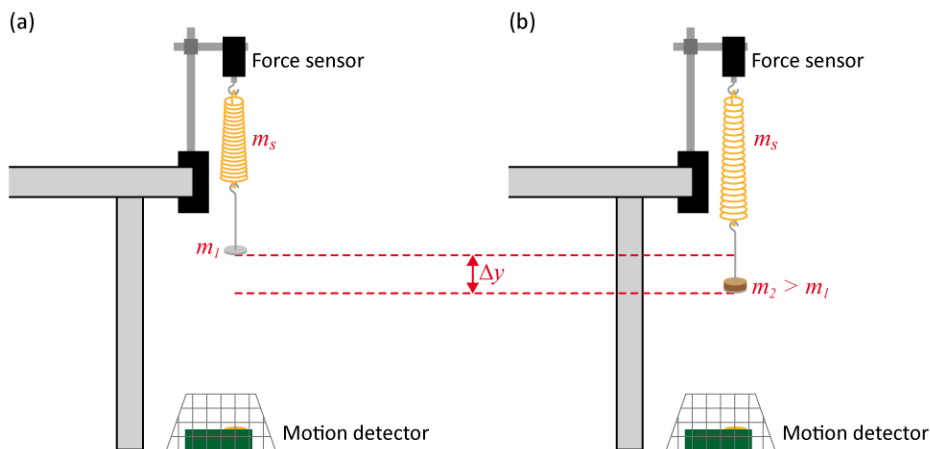

Figure 1 - Simple harmonic motion setup
- Step 2.** Prepare the setup presented in Figure 1. Place the motion detector on the floor beneath the mass hanger. Place the wire basket over the motion detector to protect it. The motion detector's face should be directly under the hanging mass.
- Step 2.** Click **Experiment** → **Zero...** to zero both sensors. For now on, the position measured with the motion detector will correspond to the displacement, Δy , as in Figure 1 and the force reading will relate to the extra mass you will add to the mass hanger.